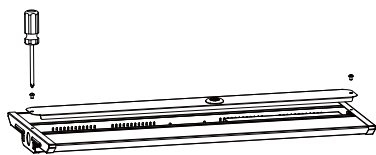

Figure 9
- Step1.Open the face cover with screw driver;[Figure 9]